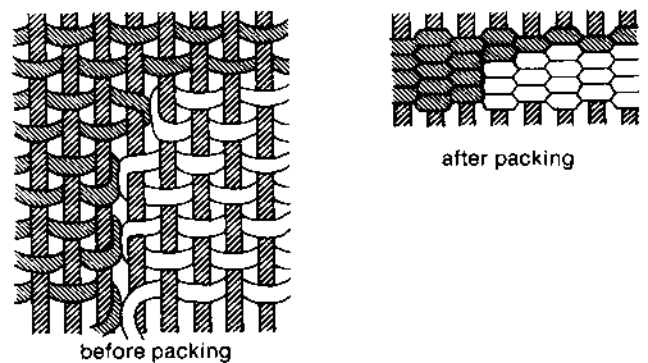

FIGURE 2. Slit
(2) SLIT—The separation between two color areas which occurs when passes of two adjacent colors meet and separate without joining. Building up one color area independent of another color creates slits. See Fig. 2.